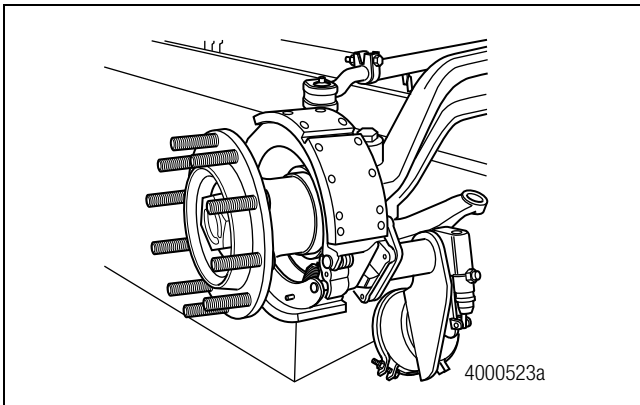

Figure 6.41
- Remove the brake drum. Figure 6.41.